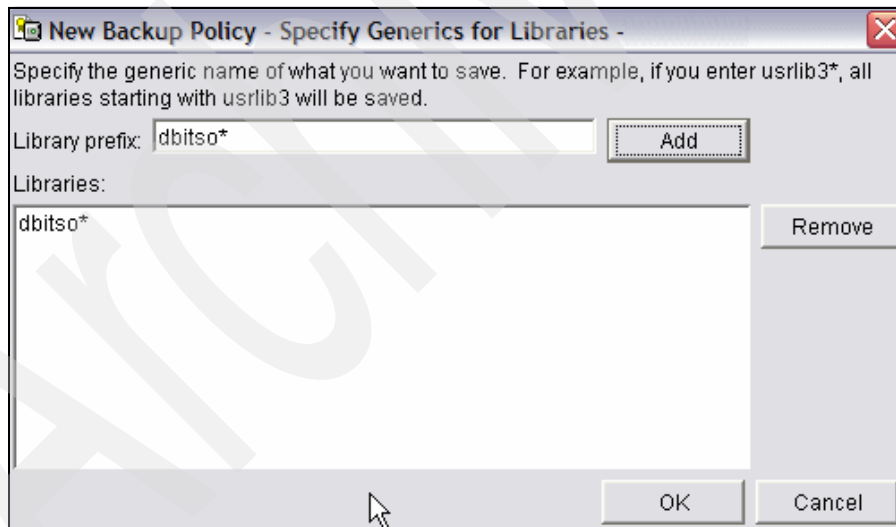

Figure 7-20 Customize user data
7. Finally, in the window shown in Figure 7-20, add the libraries you want to back up. Click **Add** and input the value DBITS0*, then click **OK**.